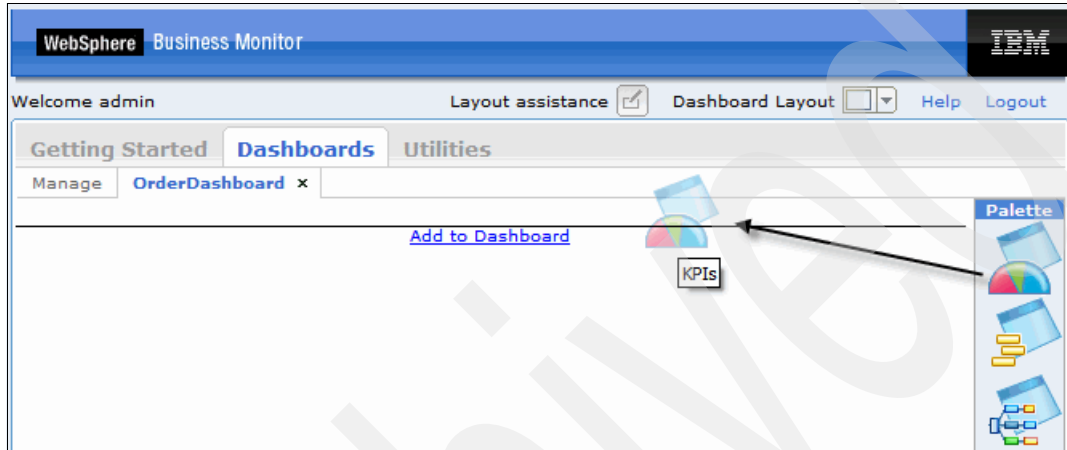

Figure 6-113 Adding the KPI portlet
2. Click the **Dashboards** tab. In the OrderDashboard created earlier, click and drag the **KPI icon** to the dashboard to add a new KPI portlet (Figure 6-113).